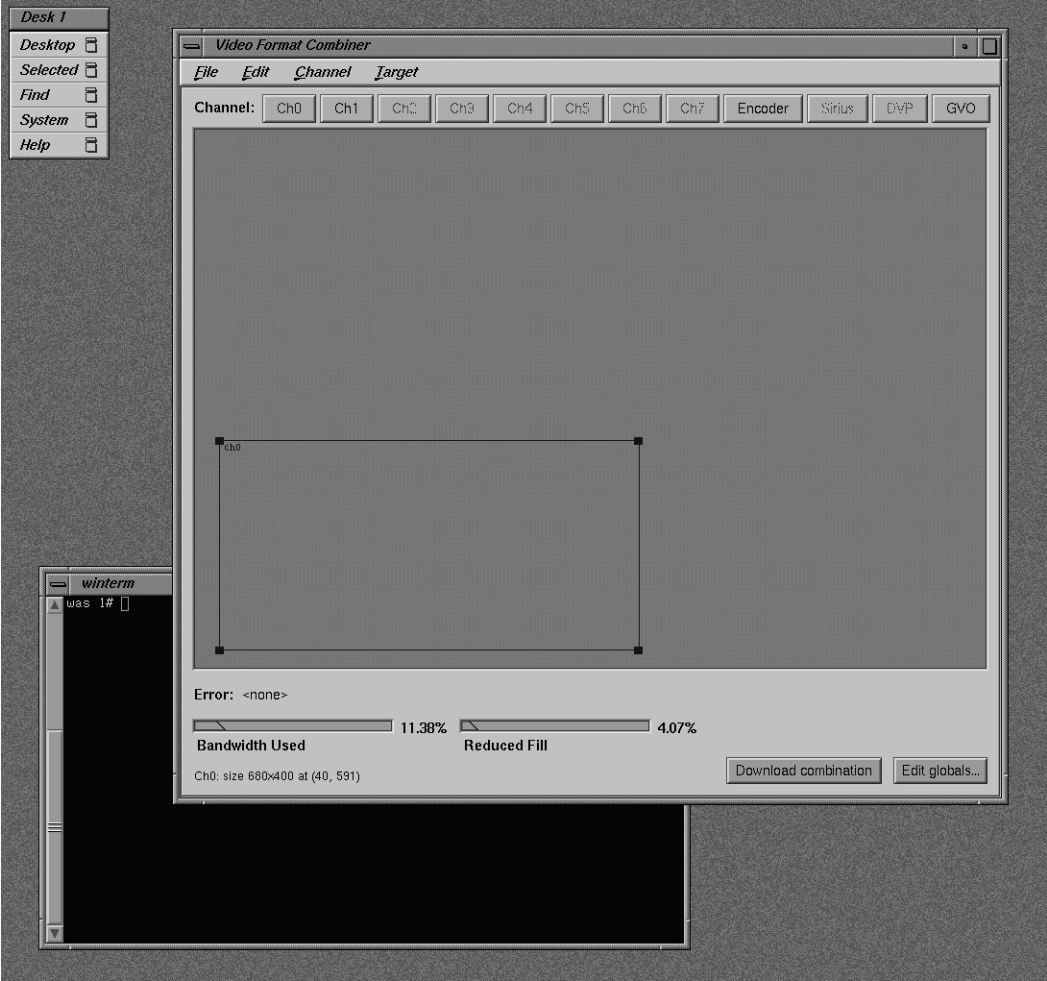

Figure D-10 Static Resize Selection
6. Move the cross (cursor) into the IRIX shell window and click the mouse button. The rectangle in the Combiner’s main window representing Ch0 now represents the area of the framebuffer covered by the 80 x 24 IRIX shell that you clicked in. See Figure D-10 for a screen example.